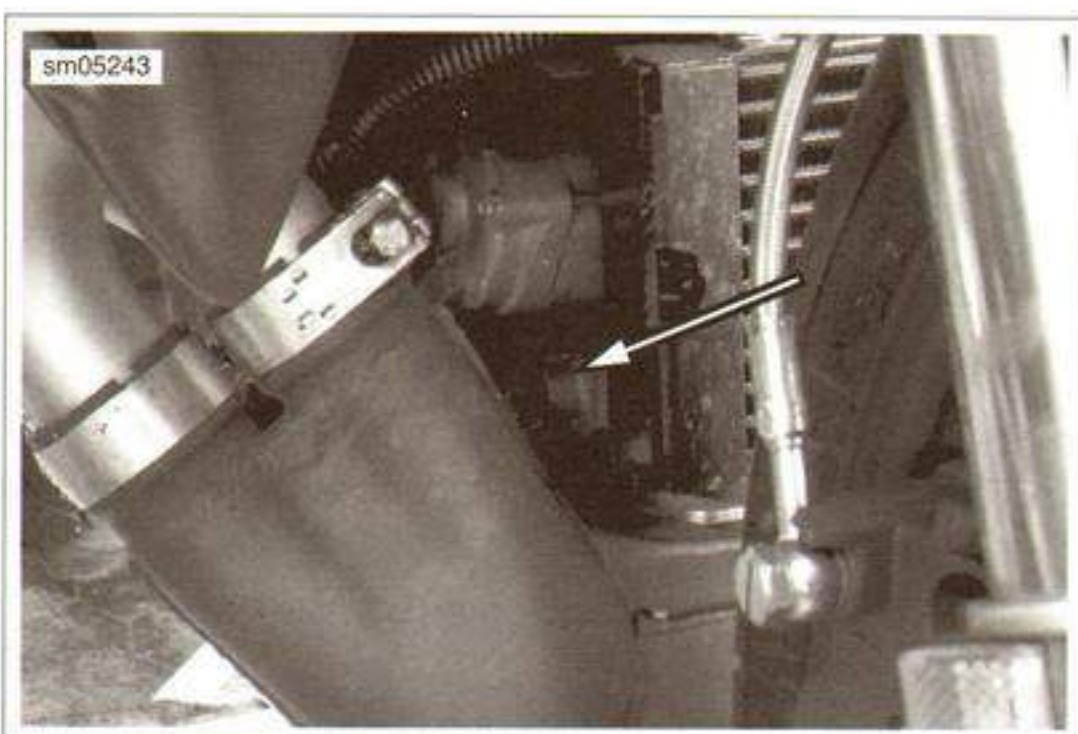

Figure 4-46. Front Muffler Fastener (Right)
3. See Figure 4-46. Remove the right side bolt and washer from the oil cooler bracket.